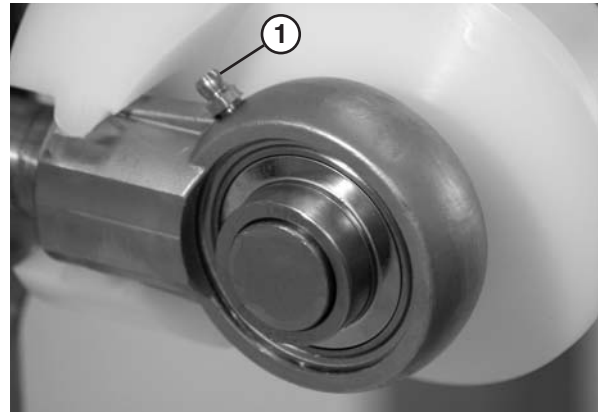

Figure 44
1. Add grease to the bearing using the zerk fitting (**Figure 44, item 1**) on the exterior of the bearing shaft assembly.